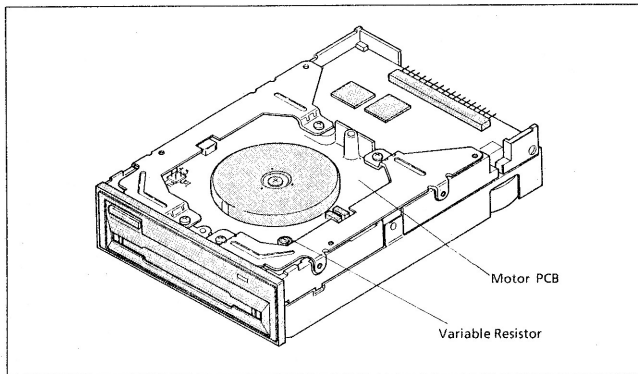

Fig. 9.5.1 I/B Adjustment
- (4) When the index burst is out of the specified range, adjust it so that it is within the specified range by turning the variable resistor on the motor PCB with a small minus screw driver. In this case, keep the drive in the normal position. [The drive position shown in Fig.9.5.1 is no good (upside down).]
- (5) Recheck the index burst.